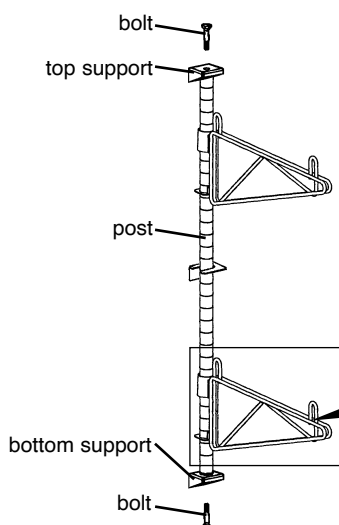

figure 5
- Bolt the posts to the supports that are already attached to the wall (see figure 5).